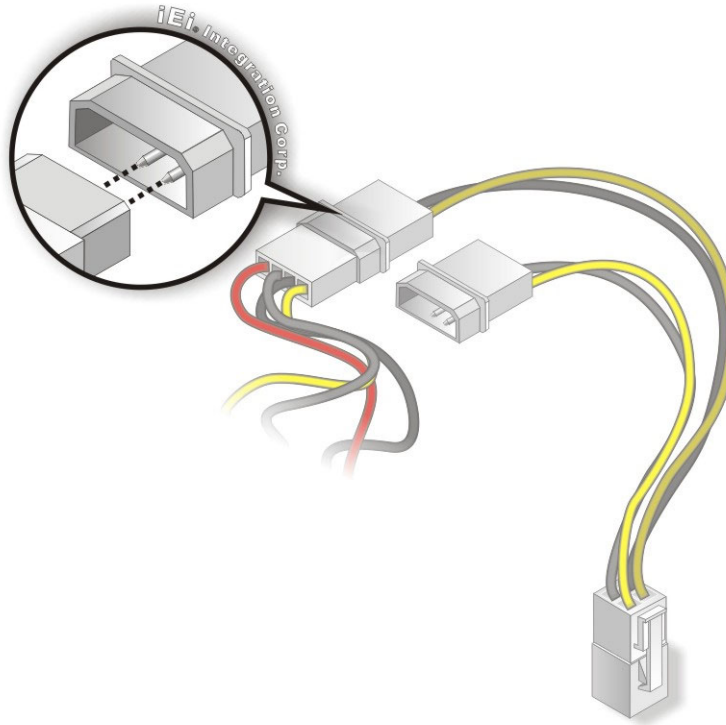

Figure 4-10: Connect Power Cable to Power Supply
Step 3: Connect Power Cable to Power Supply. Connect one of the 4-pin (1x4) Molex type power cable connectors to an AT/ATX power supply. See **Figure 4-10**.